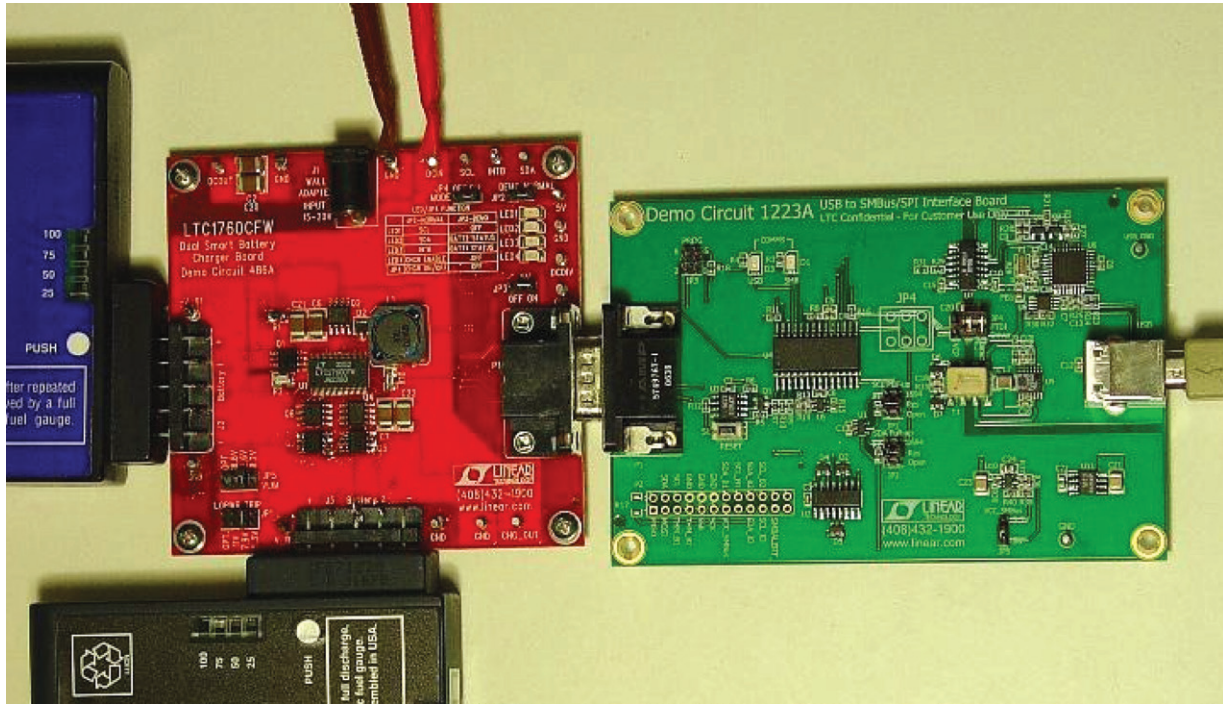

Figure 6. Hardware Setup Between a DC1223A-B and a DC486 (Can Be DC512, DC486, DC286, Etc.). JP4 Should Be on VCP.
5. Connect the hardware the same way as shown in Figure 6.
**Note:** It is not necessary to use a DC486. Any SMBus device with SCL, SDA, GND can be connected to DC1223A-B via the P2 connector. For example you can use a smart battery as a SMBus device as shown in Figure 6. Smart battery is a master/slave device.
1. Connect the hardware as shown in Figure 6. Do not connect the USB port to the computer yet.